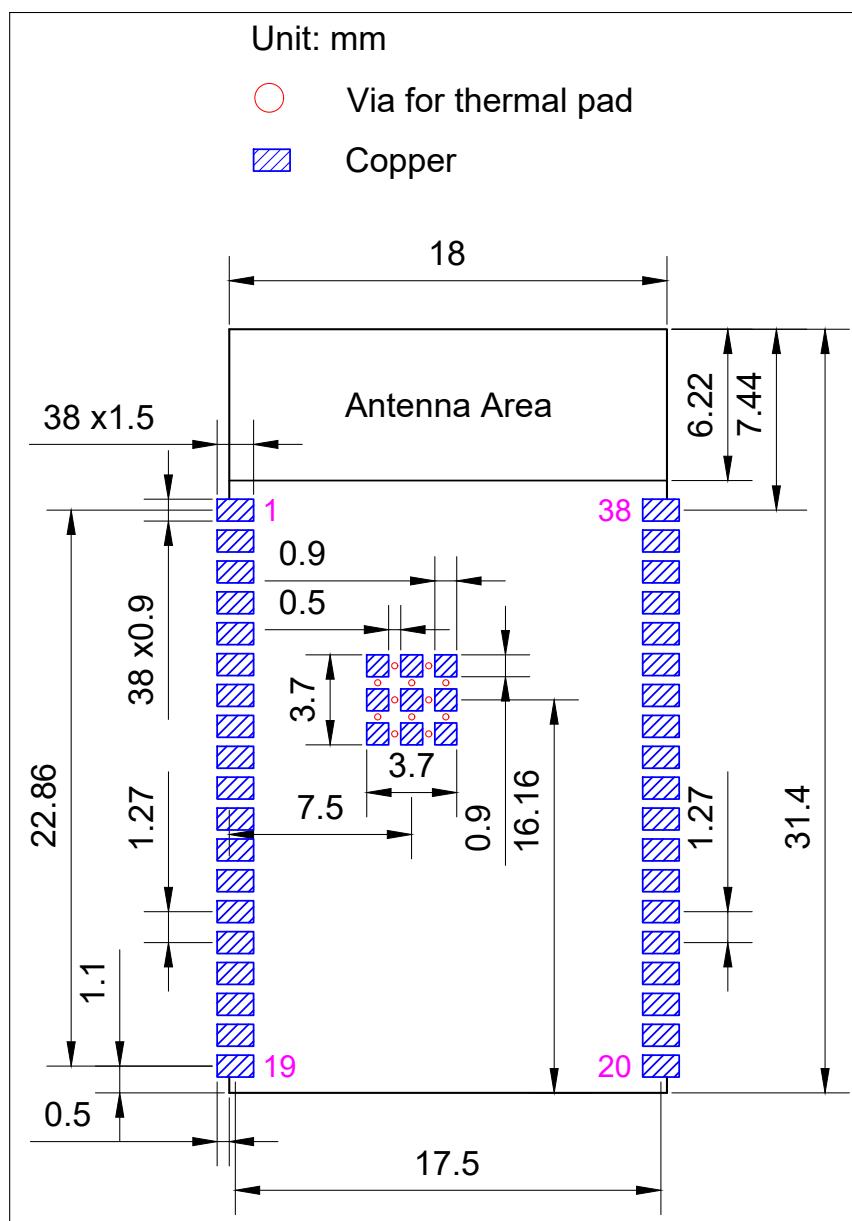

Figure 15: Recommended PCB Land Pattern
- Figures for recommended PCB land patterns with all the dimensions needed for PCB design. See Figure 15 *Recommended PCB Land Pattern*.
- Source files of recommended PCB land patterns to measure dimensions not covered in Figure 15. You can view the source files for ESP32-WROVER-E and ESP32-WROVER-IE with Autodesk Viewer.